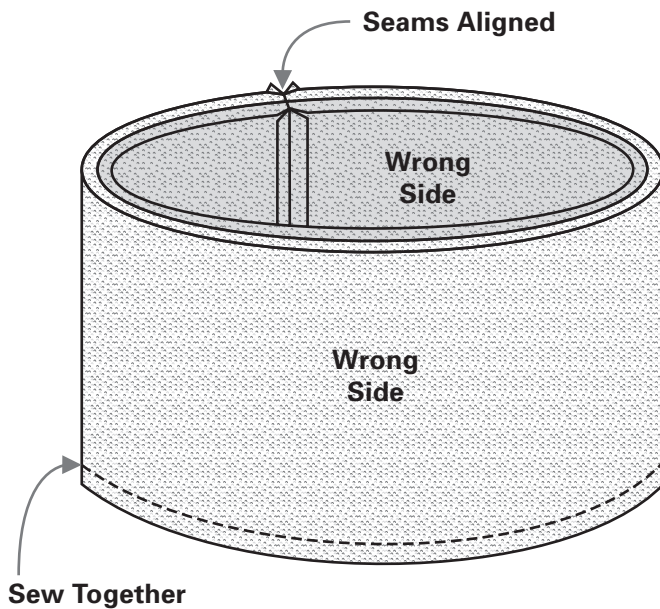

Fig. 3-6
10. With right sides facing and using a ¼-inch (6-mm) seam allowance, sew the short ends of each side band together to form a tube. Place one side-band tube inside the other with right sides facing and the seams aligned. Sew the tubes together along one edge. (Fig. 3-6)